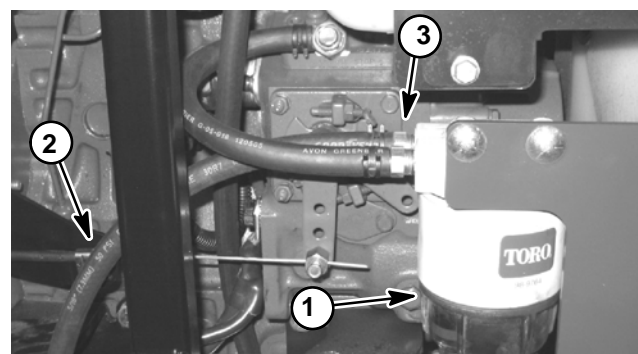

Figure 66
3. Disconnect fuel hose (pump discharge) from the fuel/water separator inlet fitting (Fig. 66).
A. For machines with serial numbers below 280000000, the amount of fuel collected in the graduated cylinder should be approximately **11.8 fl oz (350 ml) after thirty (30) seconds.**
B. For machines with serial numbers above 280000000, the amount of fuel collected in the graduated cylinder should be approximately **16 fl oz (475 ml) after fifteen (15) seconds.**